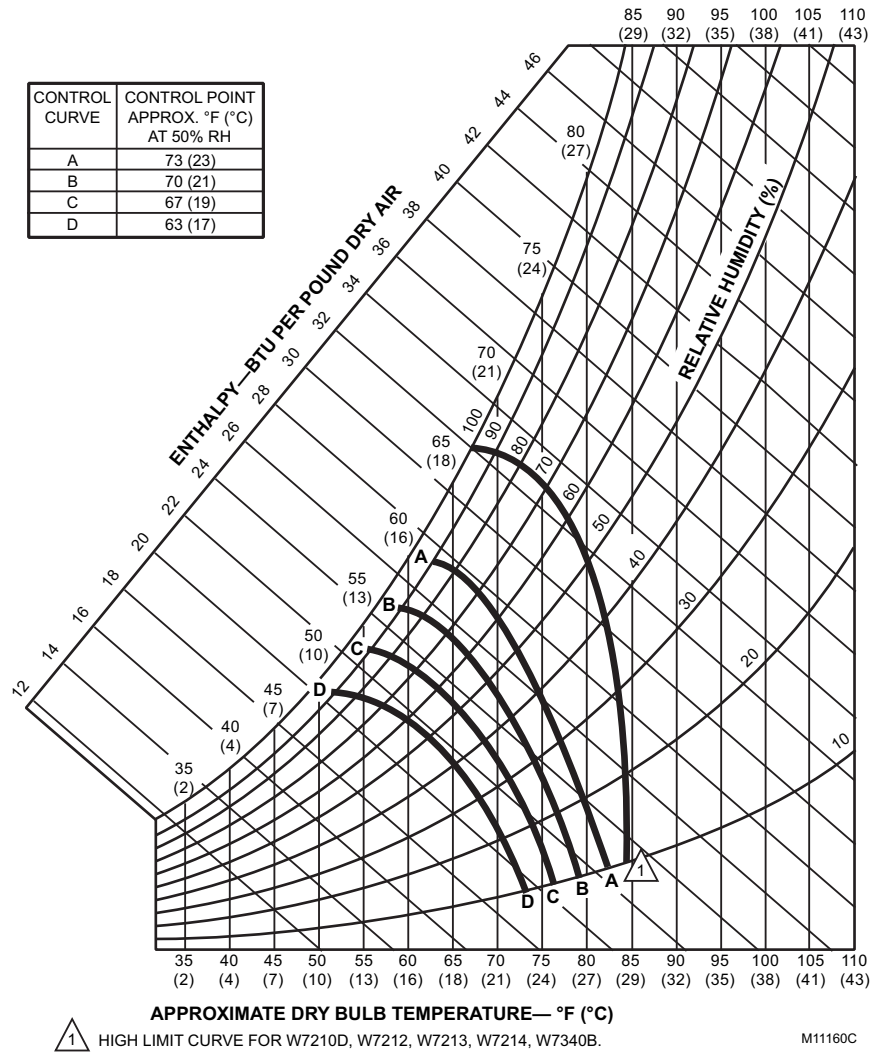
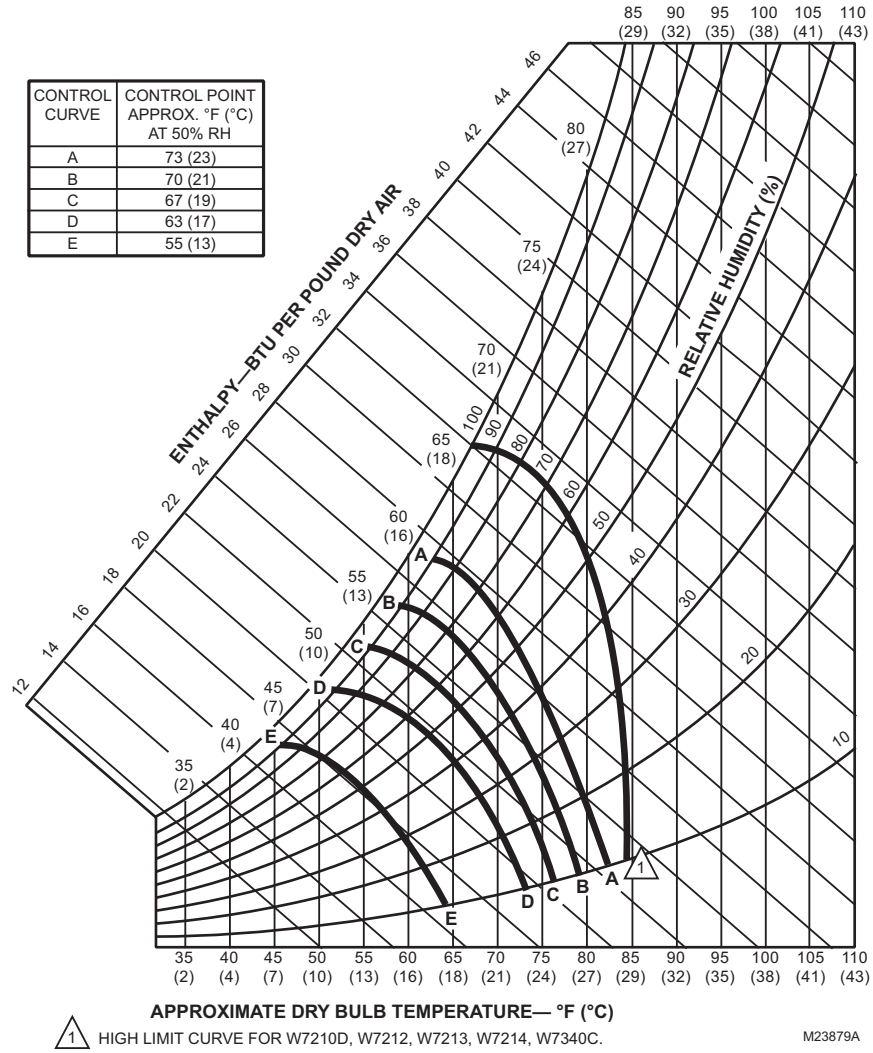

Fig. 7. W7212A, W7213, W7214 performance characteristics for enthalpy changeover settings.
Fig. 8. W7212C performance characteristics for enthalpy changeover settings
Single enthalpy compares the outdoor air conditions to a set A,B,C, or D (E) curve for humidity and temperature conditions. The installer must set the onboard potentiometer to the desired curve. The outdoor enthalpy changeover setpoint returns the outdoor air damper to minimum position. Enthalpy setpoint scale markings, located in the device, are A, B, C, and D for the W7212A, W7213 and W7214. See Fig. 7 for the corresponding control point. Enthalpy setpoint scale markings for the W7212C are A,B,C,D and E. See Fig. 8 for the corresponding control points. The factory-installed 620-ohm jumper must be in place across terminals SR and SR+. Temperature and humidity conditions to the left of the selected curve will allow the dampers to open for free cooling, temperature, and humidity conditions to the right of the curve